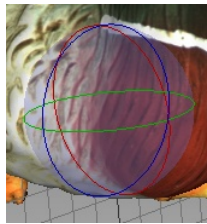

Figure 8.7.: Rotation control
- Drag one of the three circles (see Figure 8.7.) to rotate the object. Hitting the key that corresponds the required axis (X , Y or Z) will hide the controls for the other axes.